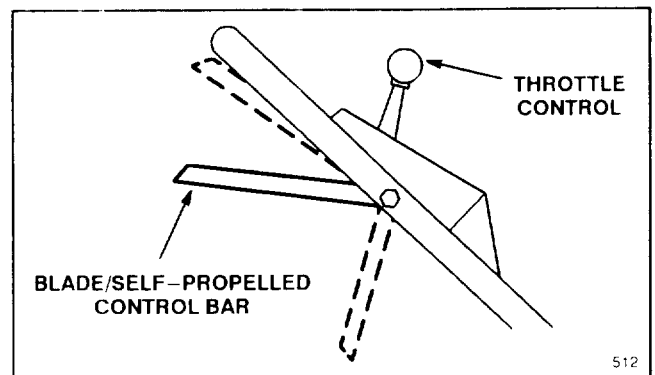
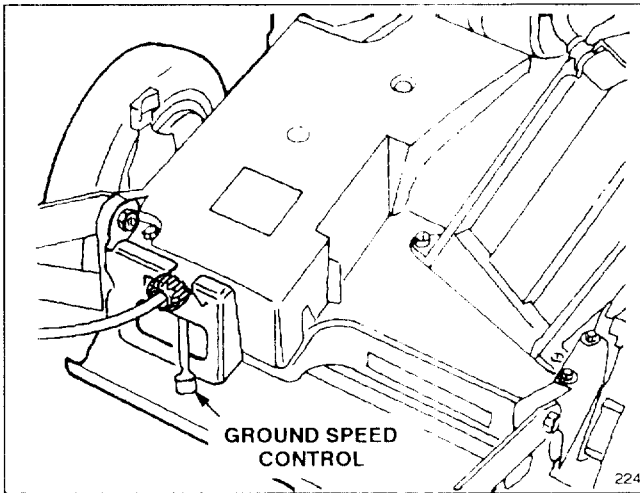
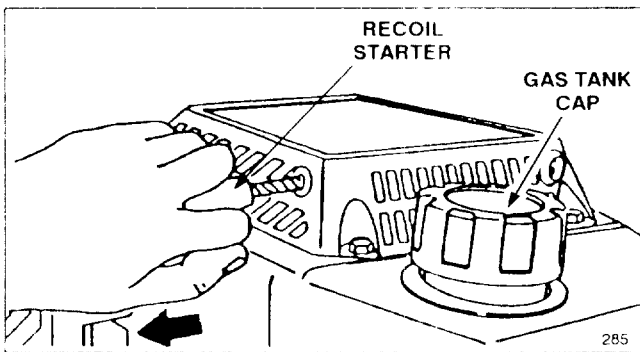

Figure 9
Figure 10
Figure 11
1. Clean around fuel tank cap and remove cap from tank (Fig. 11). Using unleaded gasoline, add fuel to 1/4" to 1/2" (6 to 13 mm) from top of tank, not into the filler neck. Do not fill the tank full.
1. **CONTROLS**—Throttle control and blade/self-propelled control bar are on upper handle (Fig. 9). Ground speed control is located at rear of belt cover (Fig. 10). Recoil starter is on top of engine (Fig. 11).
2. Remove cap from fuel tank (Fig. 11) and use pump-type siphon to drain fuel into clean gas can.